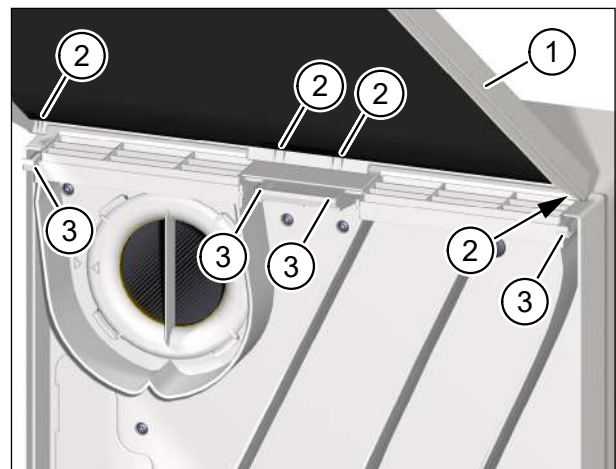

Fig. 20: Attaching the unit cover to the ventilation unit
- ▶ Hold the cover (item 1 in Fig. 20) of the ventilation unit with both hands and tilt the top edge of the cover towards the ventilation unit.
- ▶ Insert the tabs (item 2 in Fig. 20) of the unit cover into the retainers (item 3 in Fig. 20) on the top of the ventilation unit.